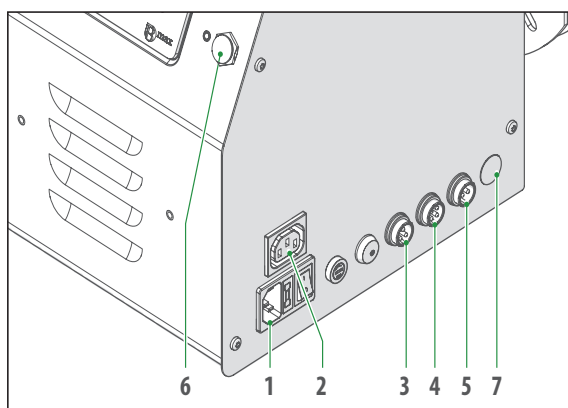

Fig. 15 Connection to the mains
- D) Connect the burner power cable to the mains (1 fig. 15).